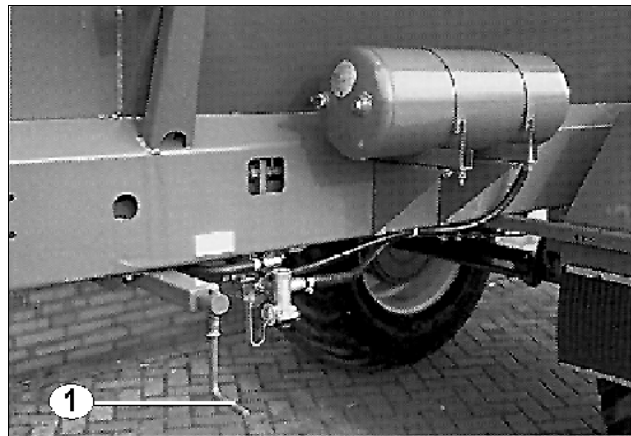

Fig. 22
- In the case of broadcasters with air brakes, the brake is applied using a crank (Fig. 22/1) at the side of the vehicle. Turn the crank to the right as far as it will go.